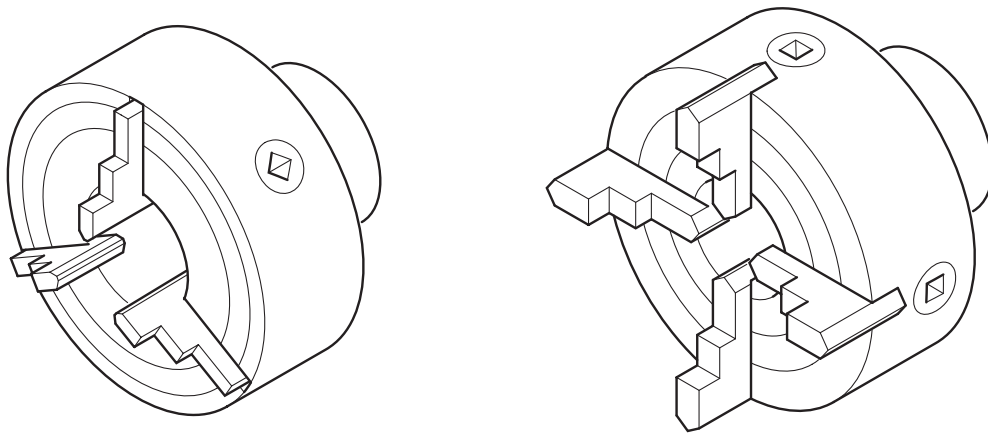

Fig. 1
- 1 Fig. 1 shows a 3 and 4 jaw chuck.